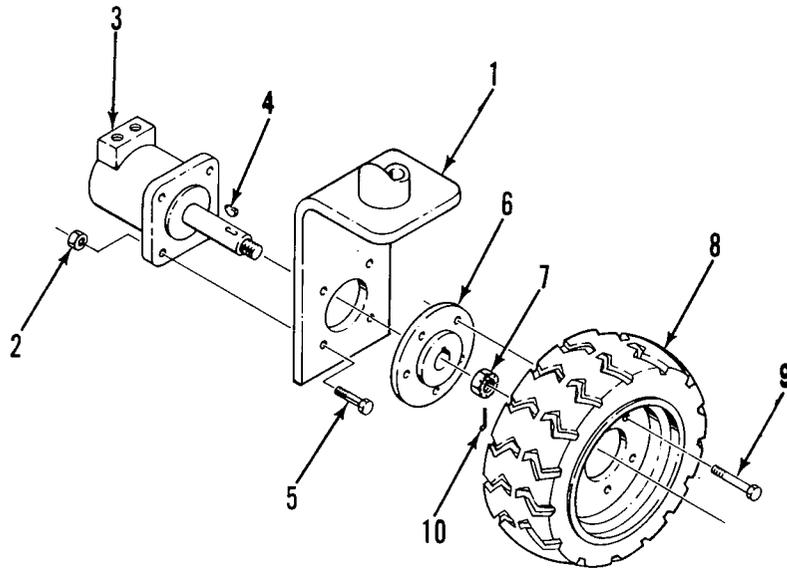

Figure 5-13. Drive Motor Removal
### a. Removal (Figure 5-13).
(1) Refer to Figure 5-13 and position the drive motor (3) on the spindle (1) and secure with capscrews (5) and locknuts (2).
(2) Remove the plugs from the hose assemblies and connect to the drive motor (3).
(3) Install the shaft key (4), hub (6) and locknut (7). Torque the locknut to 350 to 400 ft. lb. Install the cotter pin (10).
(4) Install the wheel (8) with capscrews (9) onto the hub (6). Torque to 40 ft. lb.
(5) Lower the jack and remove. Operate the drive system and check for leaks.